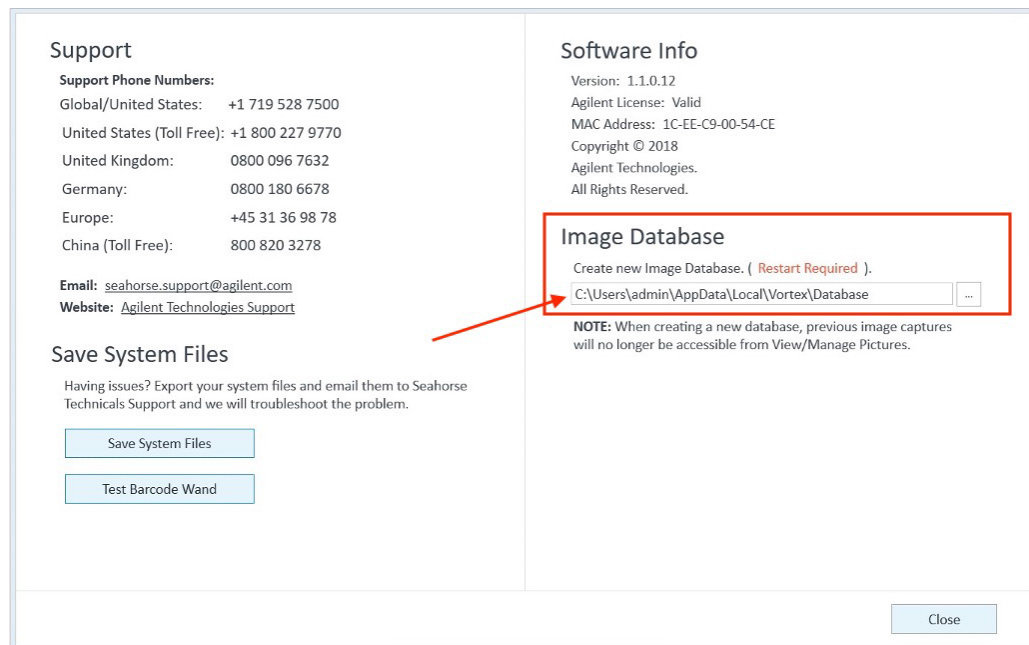

Figure 9. The **Image Database** file location in the **Help** view.
- 10 Open the XF Imaging and Cell Counting application and go to the **Help** view and record the path to the **Image Database** file location (**Figure 9**).